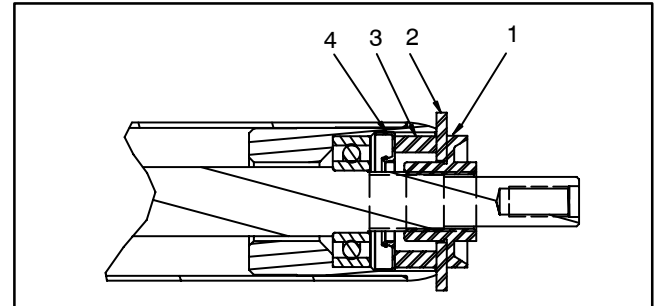

Figure 38
8. Position an assembly spacer and yellow assembly washer (see Special Tools) on each end of roller shaft (Fig. 38). Thread nut onto each end of shaft.